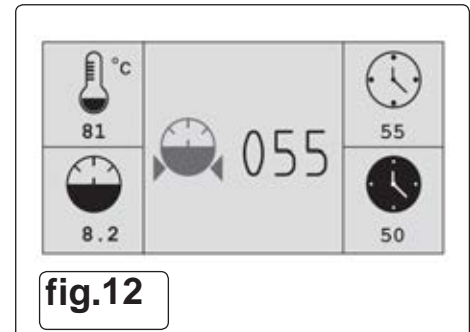

fig.12
6.3.4. **Minimum pressure setting (fig.12).**